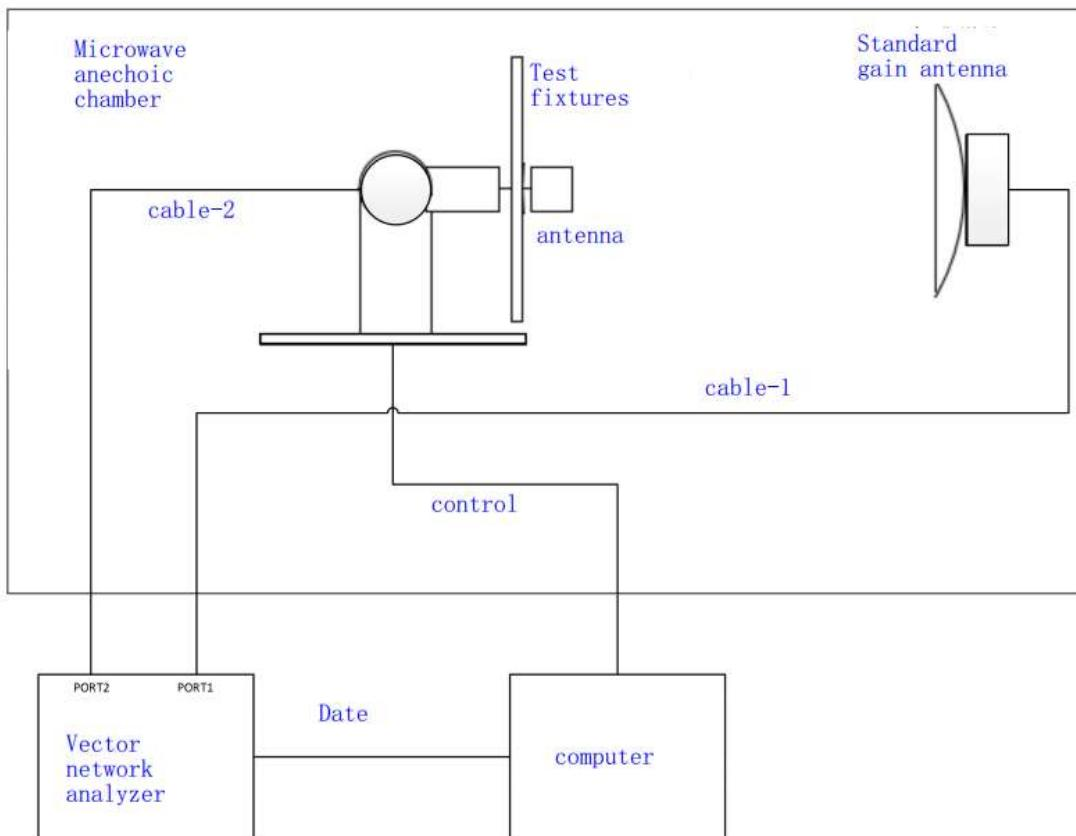

Figure 1: Antenna pattern Test schematic
- 2) Set up the test environment as shown in Figure 1, connect Cable-2 to the passive antenna port to be tested, and connect the other ports to 50 ohm load;